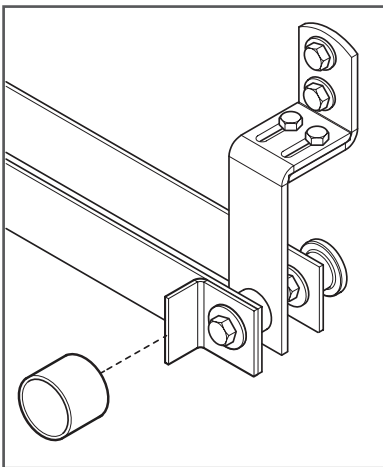

Figure 9
14. Stretch rubber bumper (provided) over hard stop. Repeat for the hard stop on the other end of the track (Figure 9).